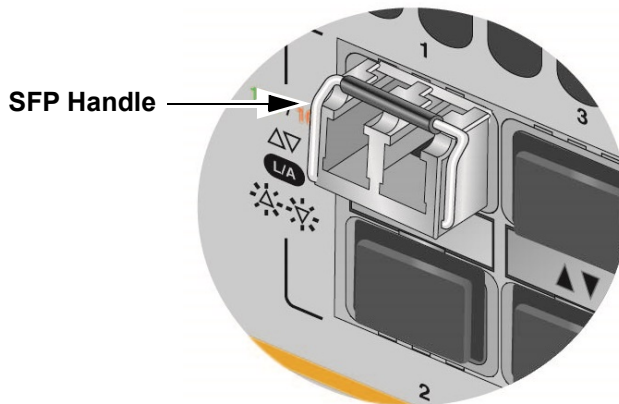

Figure 81. Positioning the SFP or SFP+ Handle in the Upright Position
7. Verify the position of the handle on the transceiver. If the transceiver is in a top slot, the handle should be in the upright position, as shown in Figure 81. If the transceiver is in a bottom slot, the handle should be in the down position.